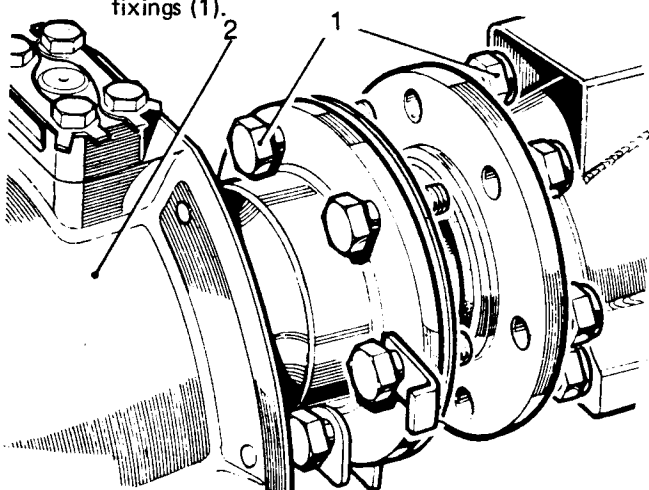

Fig J2.15
- (3) Refer to Fig J2.15. Replace the hub assembly complete with axle half shaft and swivel pin housing (2).
- (4) Replace the fixings (1) between the swivel pin housings and the axle case noting the steering lock stop plate and on the right hand side only, the jack location stop plate.